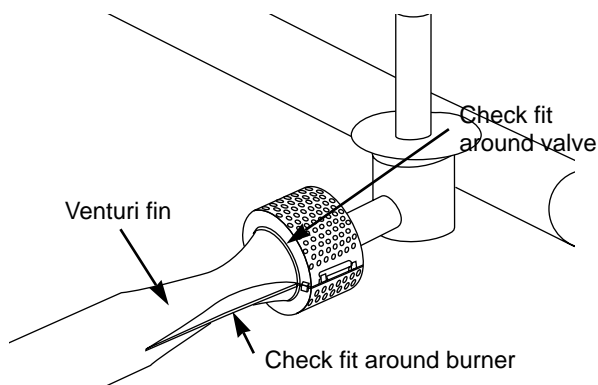

Figure 14
- i) Reinstall the Spider Stopper Guards. Slightly rotate the Spider Stopper Guards so that the seams are in line with the Venturi fins. There should be no gaps in the seams or in the fit around the burners and valves. Figure 14.